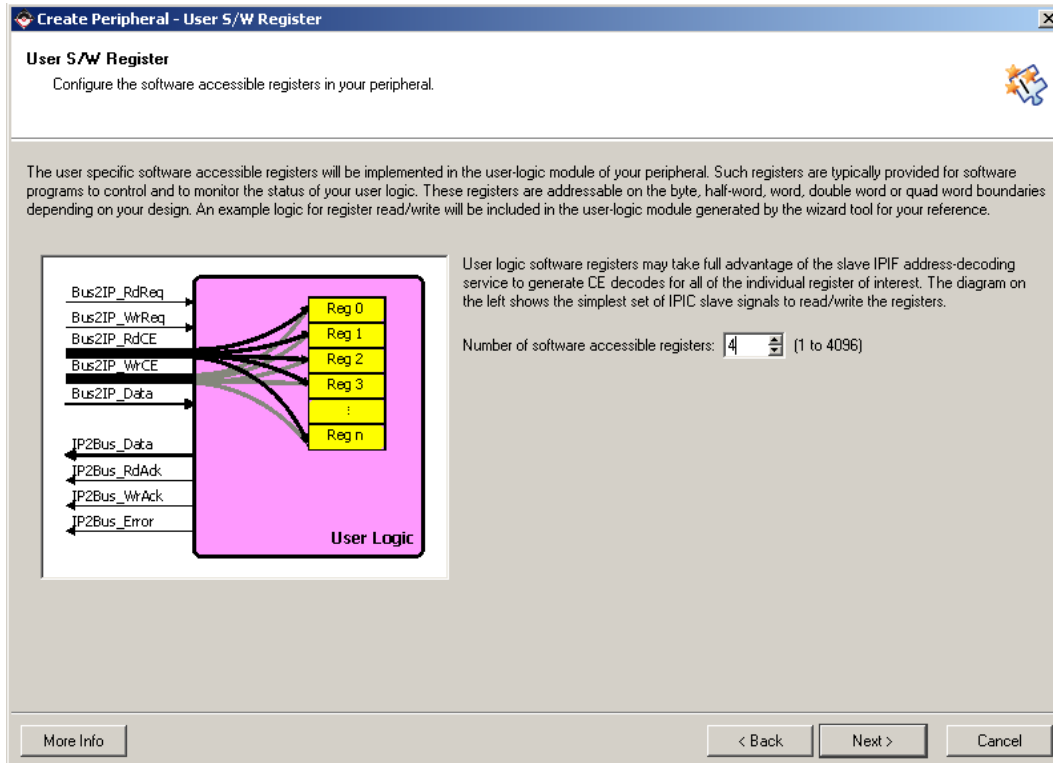

Figure 15: Create Peripheral - User S/W Register
- Click **Next**. In the Create Peripheral - User S/W Register dialogue, change the Number of software accessible registers to 4 as shown in Figure 15.